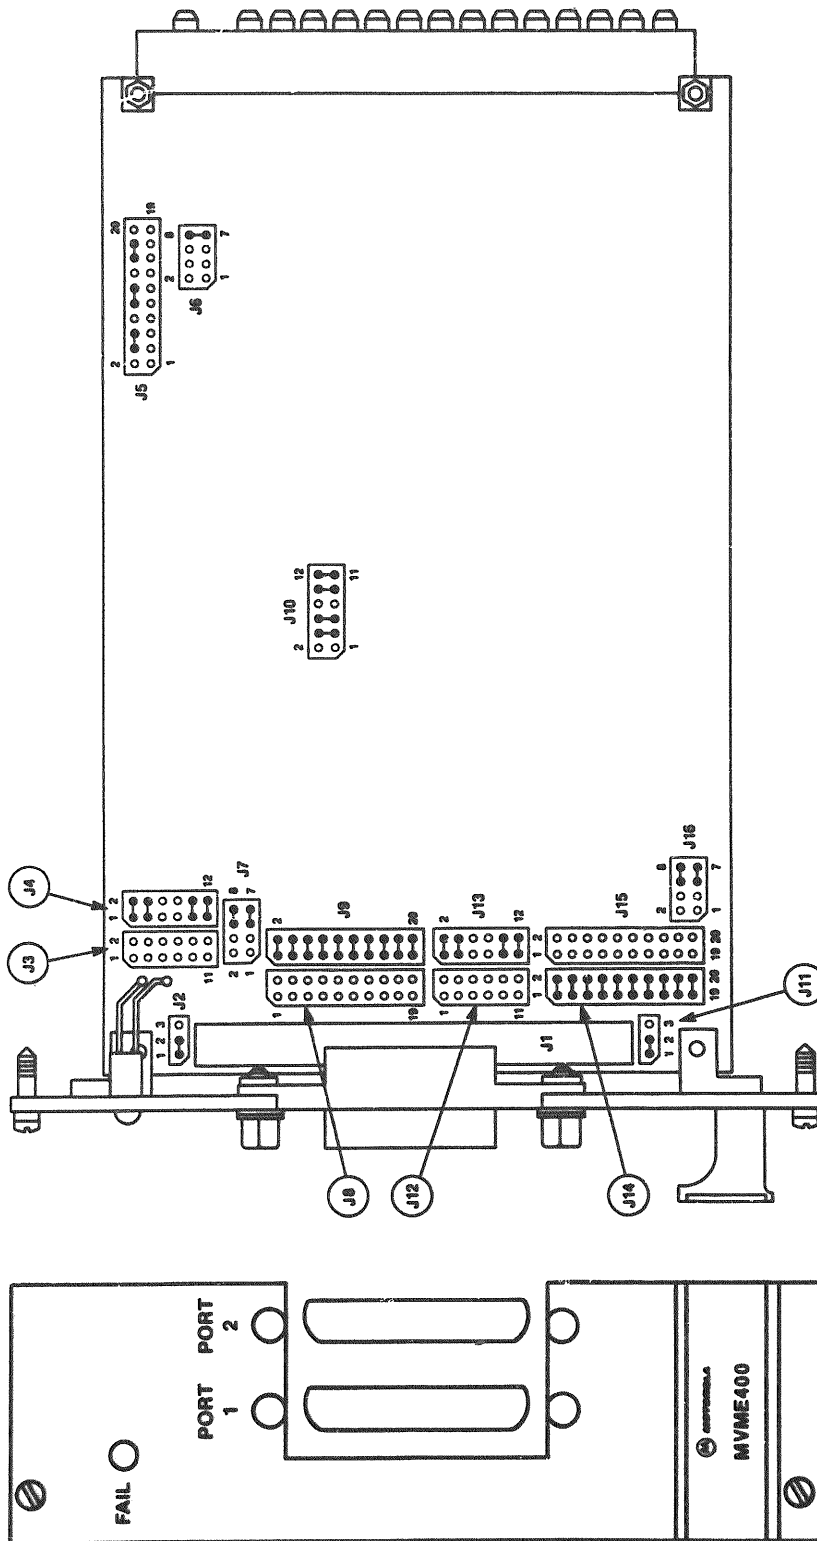

FIGURE 3-3. MVME400 Port 1 Modem Configuration
To connect the VME/10 to a modem, the MVME400 Dual RS-232C Serial Port Module jumper headers are prepared as listed in Table 3-1 and as shown in Figure 3-3. For specific details about the jumper header configurations, refer to the MVME400 Dual RS-232C Serial Port Module User's Manual, Motorola publication number MVME400.
- b. Refer to Table 3-1 and Figure 3-3 and configure the MVME400 jumper headers for port 1 modem operation, interrupt level 4, and baud rate 9,600.